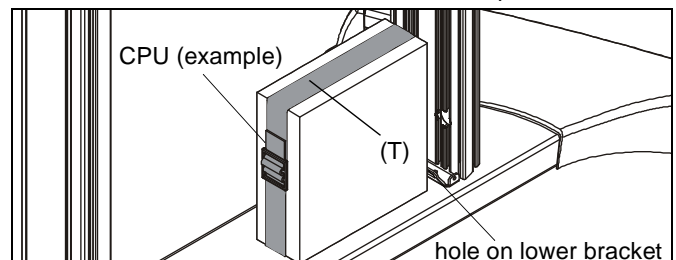

Figure 11
1. Route CPU strap (T) through hole on lower bracket and around CPU to secure CPU to column base. (See Figure 11)